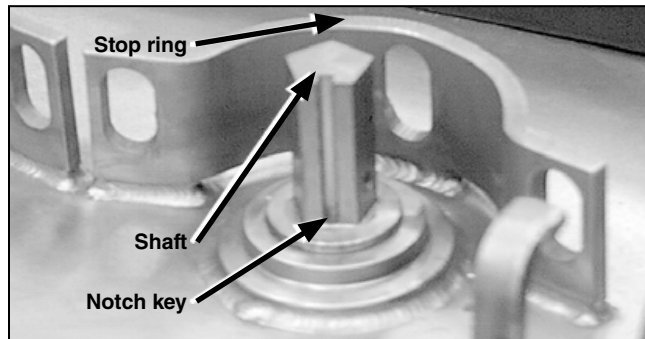

Figure 69. The shaft notch key.
- Note:** It may be necessary to manually rotate the motor operator shaft (by twisting the operating disk) to line up the operator key with the shaft notch key. See Figure 69.